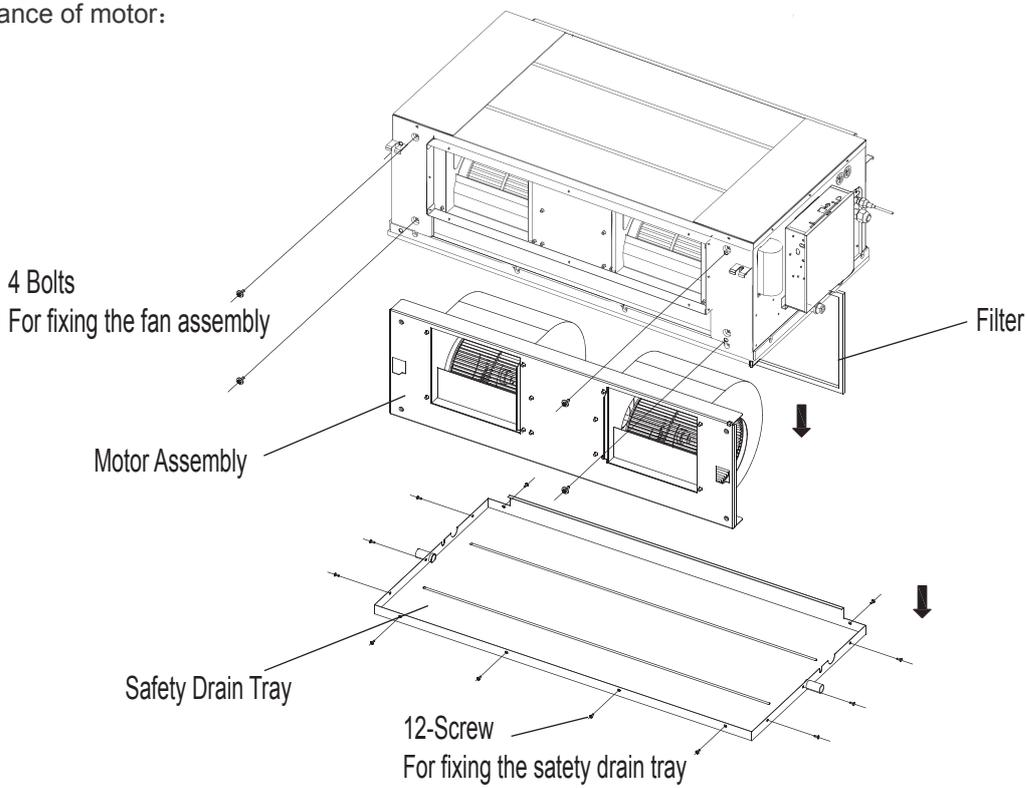
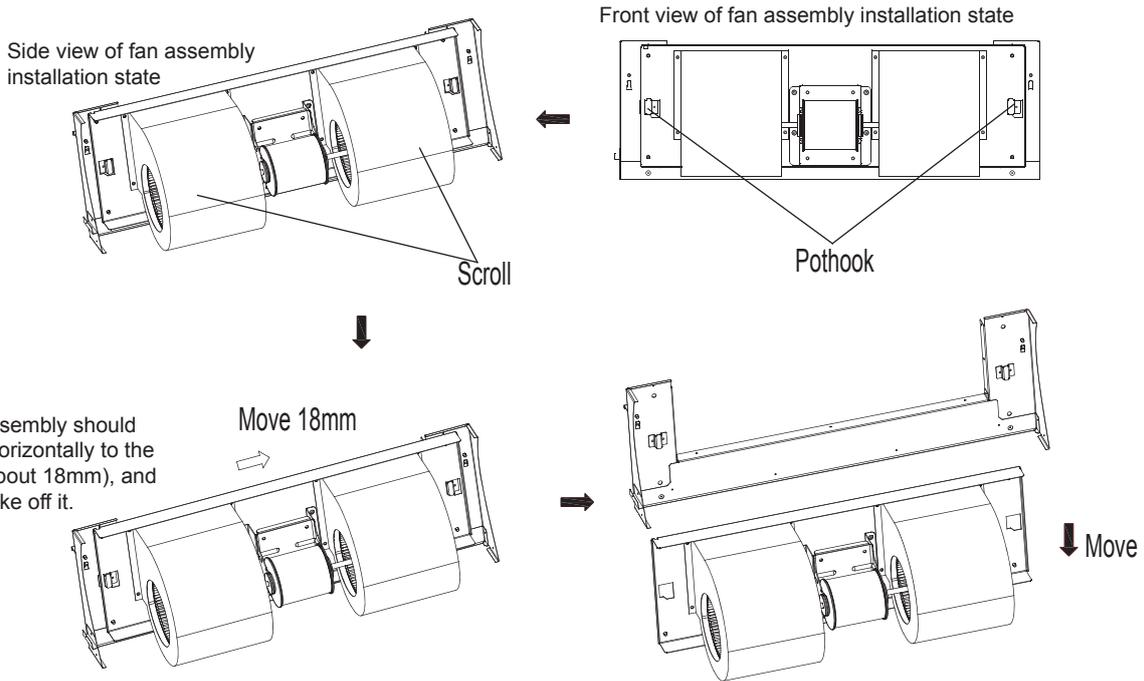

Fig.4-17
Fig.4-18
1. Refer to Fig.4-17, remove all 11 SCREW from safety drain tray, and take off the safety drain tray.
3. Refer to Fig.4-17, remove all 4 bolts from fan assembly, see Fig.4-18, according to which orders to take off the fan assembly.
3. Refer to Fig.4-18, horizontal pushing the fan assembly, until it cannot not move any further, and then lift up slightly and take down to remove it.